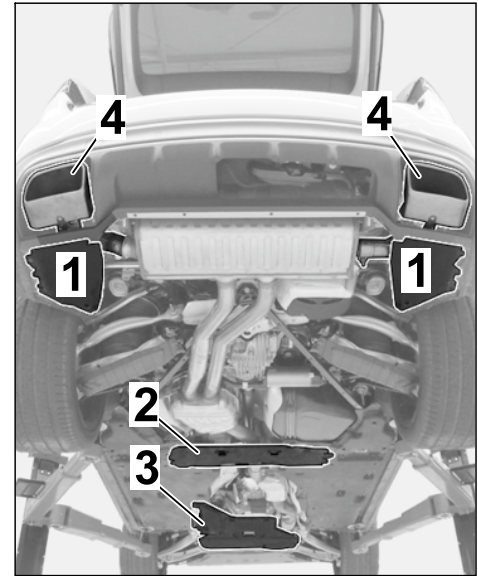

Figure 11
1.9.1 Remove rear underbody cover and rear tunnel cover (⇒ *Figure 11 -1 and 2-*, ⇒ *Workshop Manual '519419 Removing and installing cover for rear underbody'*).
1.9.2 Remove the tailpipe (left/right) (⇒ *Figure 11 -4-*, ⇒ *Workshop Manual '263419 Removing and installing the tailpipe'*).
- Remove the front underbody cover (rear section) (⇒ *Figure 11 -3-*), see ⇒ *Workshop Manual '519219 Removing and installing the cover for the front underbody'*